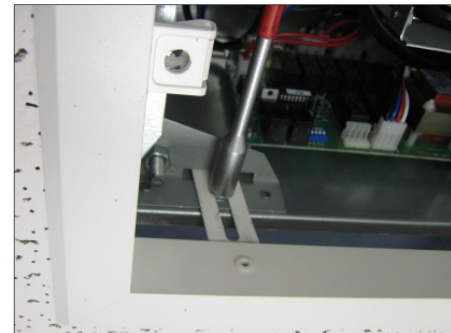

Fig 8
Step 3 Using the M6 bolts removed in Step 1, secure grille by fixing each bolt through the slotted brackets as shown in Fig 8. With the hinged grille open, adjust the height of the grille frame via slots in each bracket, so frame is snug fit against the ceiling with no gaps all the way around.